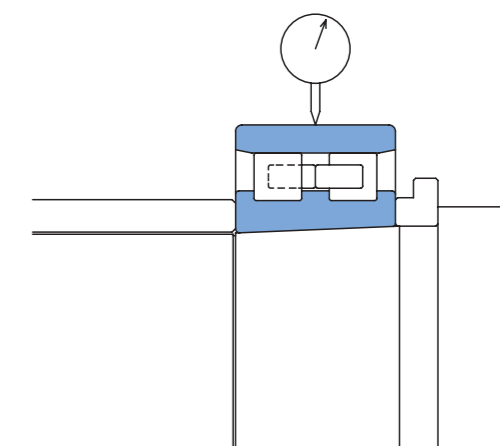

Figure 9.11 Final Assembly Radial Clearance Check
- ⑪ Correct the spacer width dimension.
- ⑫ Remove the inner sub-unit from the shaft. This time avoid striking the inner ring with strong force. Use of a special removal tool to make ring removal easy.
- ⑬ Install the spacer and bearing onto the shaft.
- ⑭ Again, measure the radial clearance and confirm that the desired radial clearance is provided (Figure 9.11).